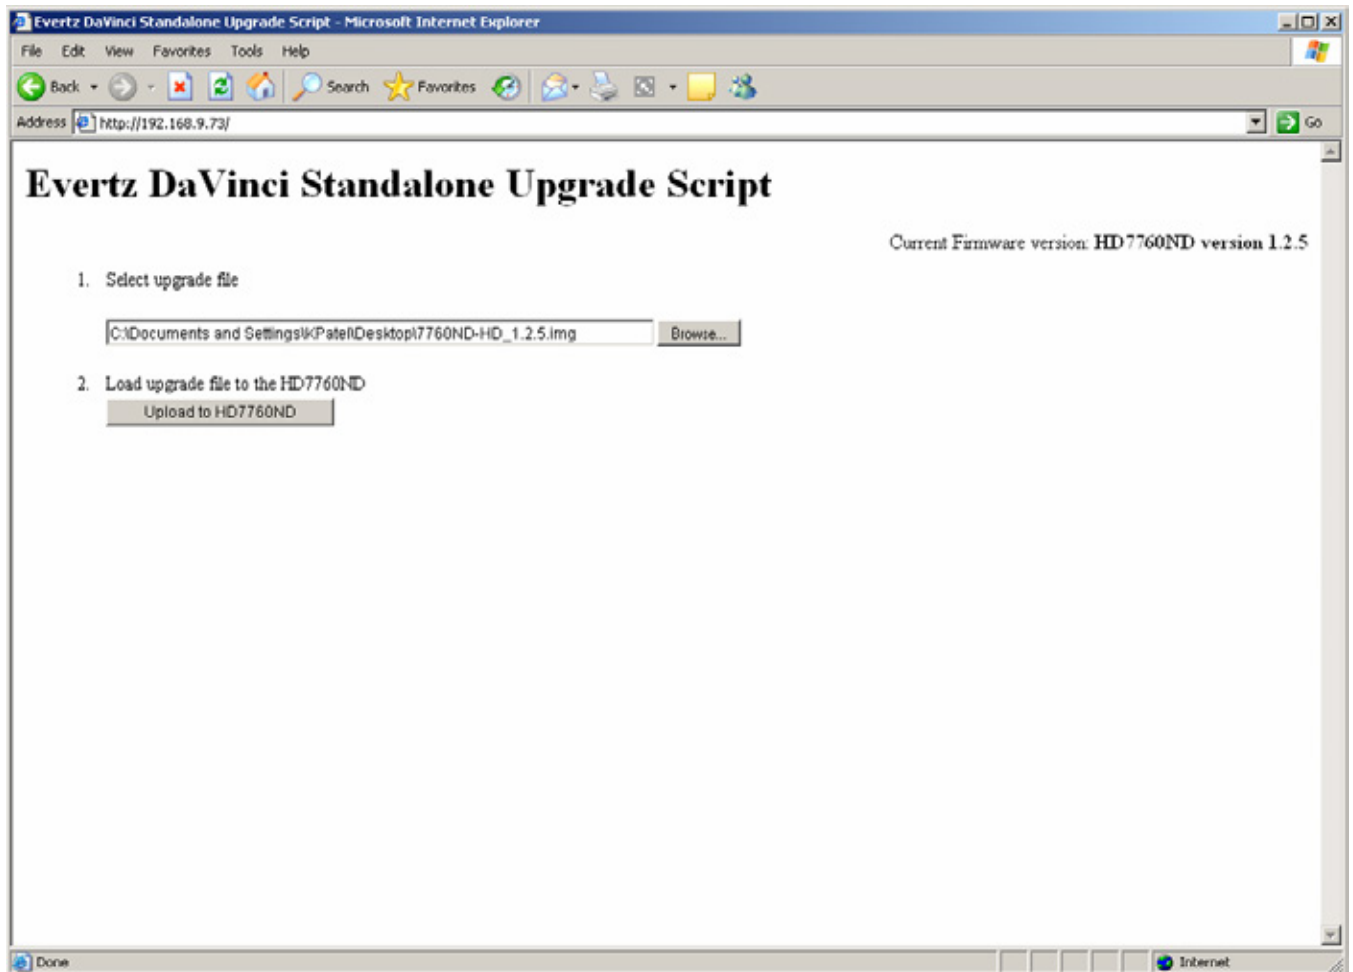

Figure 9-1: Upgrade Window
3. An upgrade page will appear as shown in Figure 9-1.